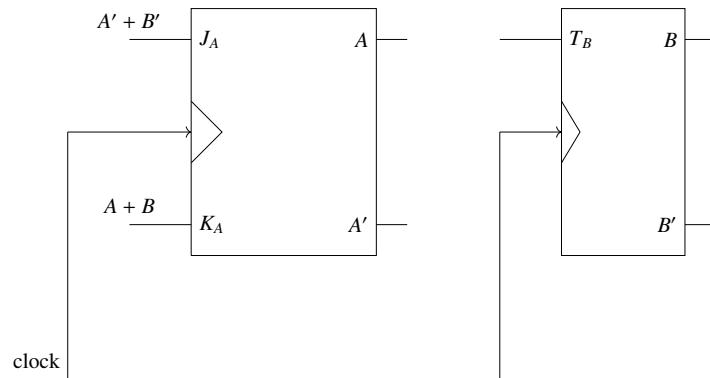

Fig. 5.15
15. Given below in Fig. 5.15 is the diagram of a synchronous sequential circuit with one $J-K$ flip-flop and one T flip-flop with their outputs denoted as A and B respectively, with $J_A = (A' + B')$, $K_A = (A+B)$ and $T_B = A$. Starting from the initial state ($AB = 00$), the sequence of states (AB) visited by the circuit is